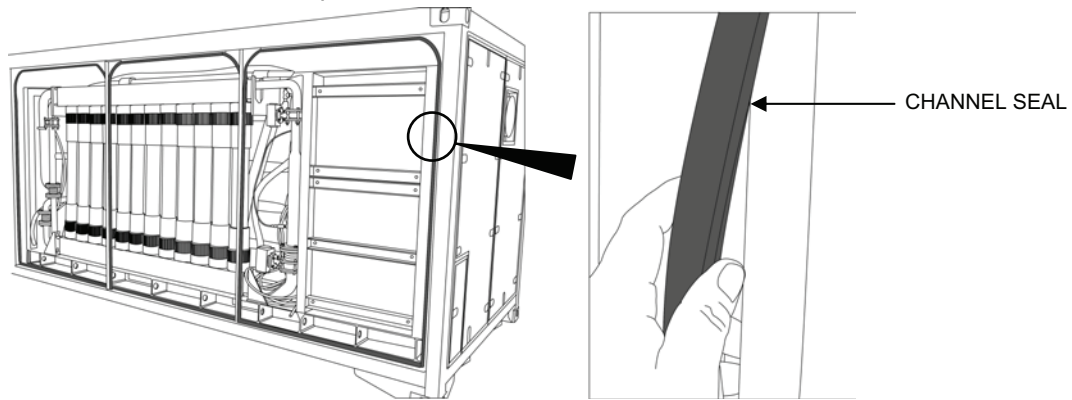

Figure 2. Flat Rack Channel Seal Replacement.
1. Replace flat rack channel seals as follows (see Figure 2):